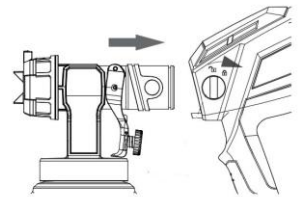

Fig. 11
5. Connect spray attachment and the main body (Fig. 11).